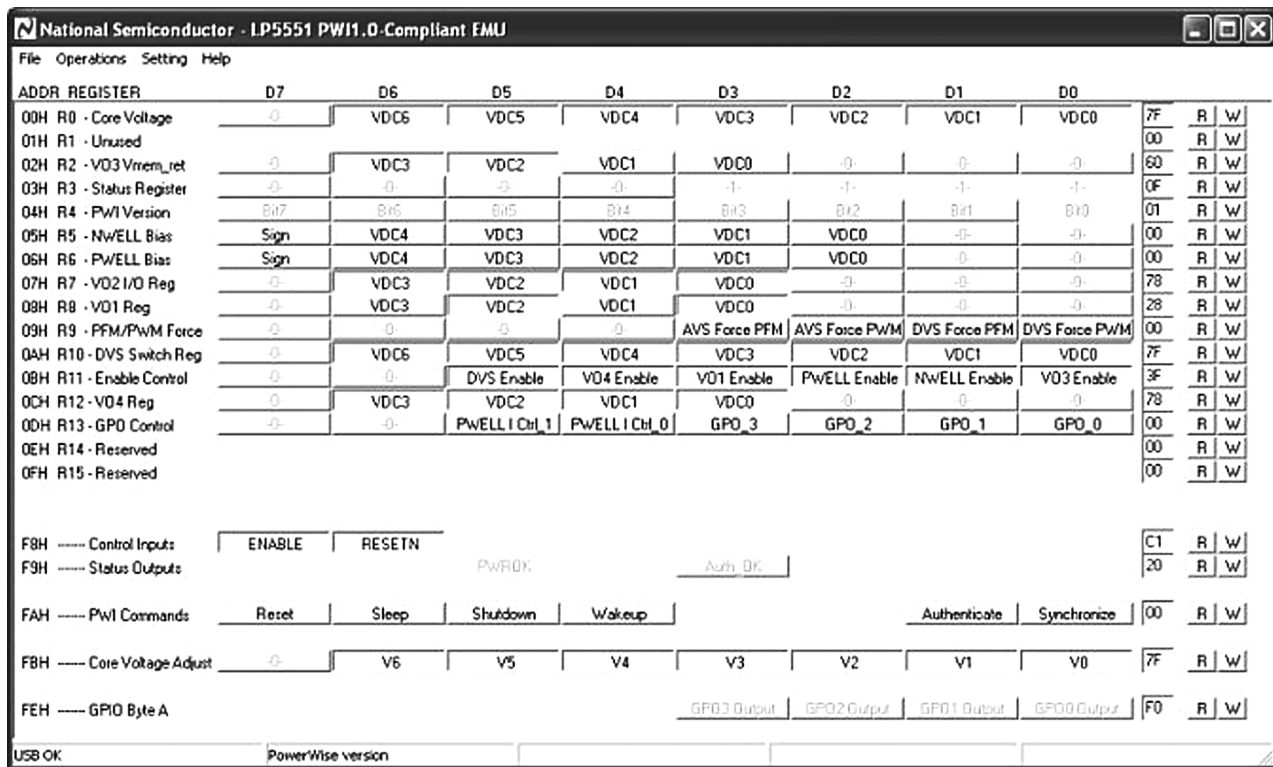

Figure 2. LP5551 GUI with Default Register Values and Commands
4. From the menu: Operations -> Read all, the default register values can be read from the LP555x and shown in the GUI, as shown in Figure 2.
From the left to the right of the GUI, as shown in Figure 2:
The lower part of the GUI is for hardware resets, enables and direct PWI commands, as shown in Figure 2. Please refer to the PowerWise Interface Specification for the details of PWI standard at their website.